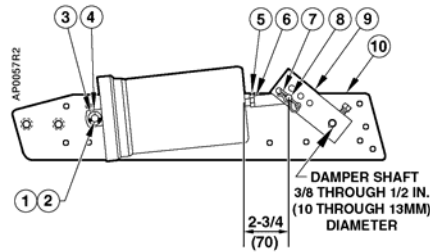

Figure 6. Actuator 331-3000 (Typical).
- Slip the crank over the 3/8 through 1/2-inch (10 through 13-mm) diameter damper shaft (Figure 6).
With the actuator assembly to the left of the damper shaft, an increase in actuator pressure rotates the damper blade clockwise (CW) when the crank is above the damper shaft (Figure 6), or counterclockwise (CCW) when the crank is below the damper shaft.
Table 5. Actuator Accessories Shown in Figure 6.